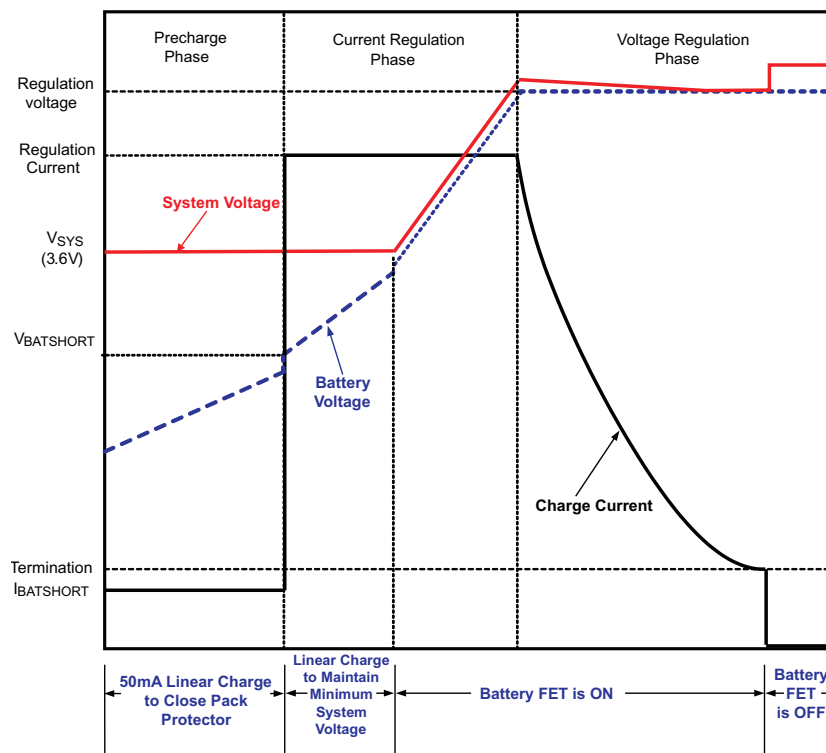

Figure 20. Typical Charging Profile of bq24165/6/7
Charging is done through the internal battery MOSFET. When the battery voltage is above 3.5V, the system output (SYS) is connected to the battery to maximize the charging efficiency. There are 6 loops that influence the charge current; constant current loop (CC), constant voltage loop (CV), input current loop, thermal regulation loop, minimum system voltage loop (MINSYS) and input voltage dynamic power management loop ( $V_{INDPM}$ ). During the charging process, all six loops are enabled and the dominate one takes control. The bq24165/6/7 supports a precision Li-Ion or Li-Polymer charging system for single-cell applications. The minimum system output feature regulates the system voltage to a minimum of  $V_{SYS(REG)}$ , so that startup is enabled even for a missing or deeply discharged battery. Figure 20 shows a typical charge profile including the minimum system output voltage feature.